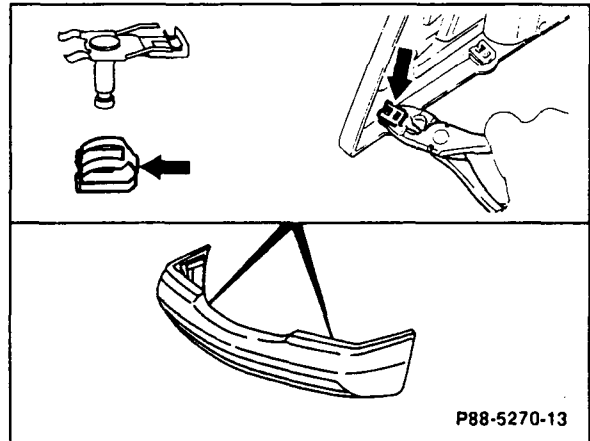

Figure 2
4. Remove chrome molding by removing clips, SMS Job No. 88-205 (arrow, Figure 2). Remove beam.